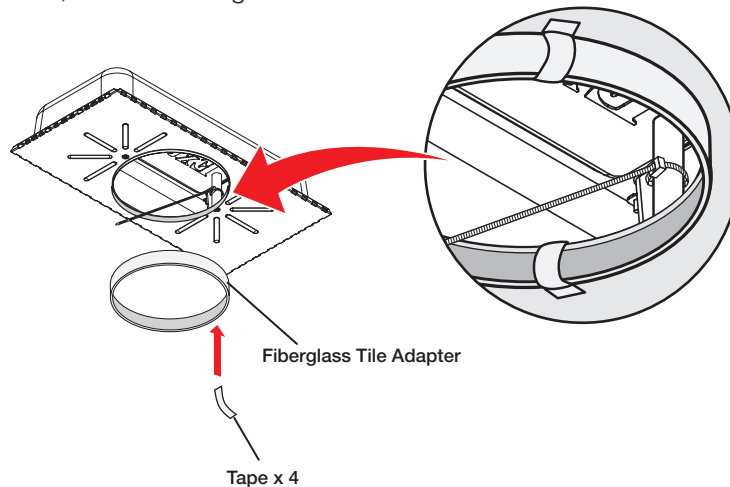

Figure 10. Attach Four Tape Strips to the Baffle and Port Ring Adapter
- b. Attach each tape strip starting from the outer side of the CS 120P metal baffle, up and over the port ring adapter, then down to the inner surface of the CS 120P metal baffle, as shown in figure 10.